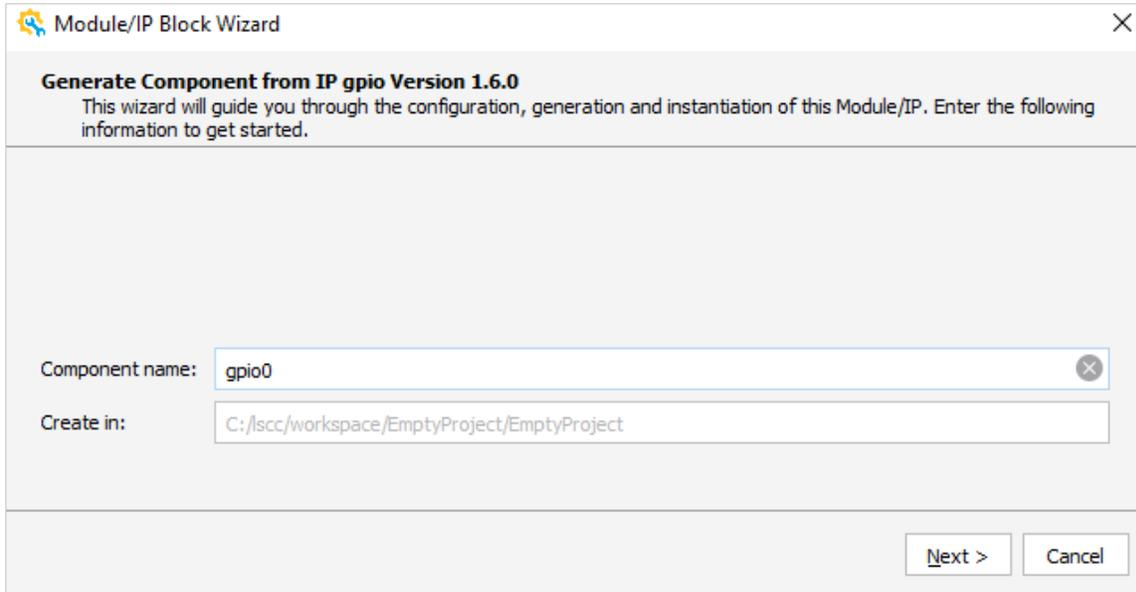

Figure 2.40. Module/IP Block Wizard – Generate Component from Module gpio Version 1.6.0
- From the **IP on Local** tab, select a desired IP, such as GPIO. Double-click the IP module, or drag and drop the IP module to the **Schematic** view. A Module/IP Block wizard pops up (Figure 2.40).